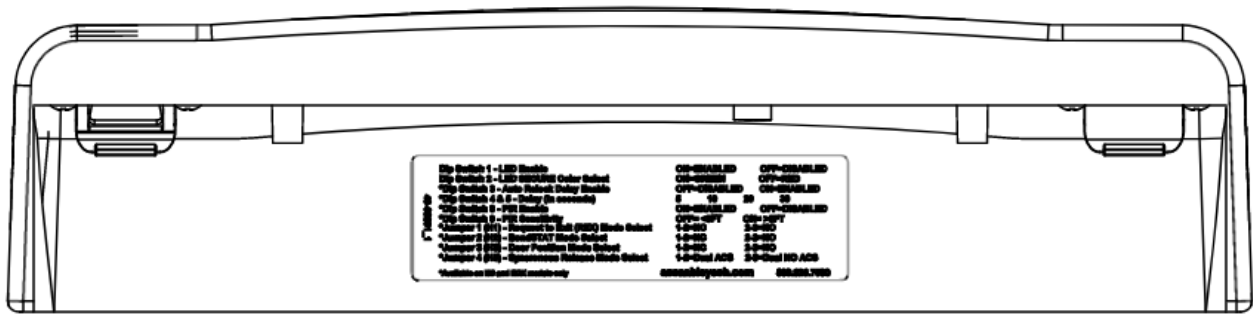

Figure 33. Settings Label
- COMPLETE the label and AFFIX it to the inside cover of the Magnalock (see Figure 33, “Settings Label”).